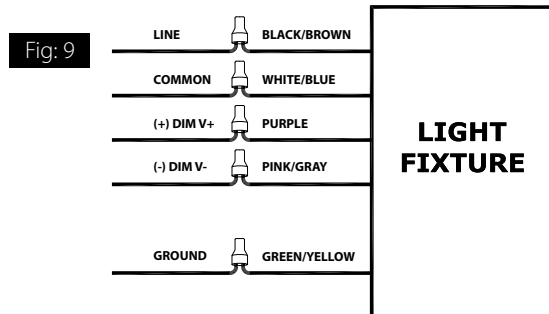

Fig: 9
2. Make appropriate wire connections per NEC in an approved enclosure (*not included*) see **Fig. 9**.
2. Make appropriate wire connections per NEC in a approved enclosure (*not included*) see **Fig 9**.
Universal voltage driver permits operation at 120V thru 277V, 50 or 60 Hz. For 0-10 Dimming, follow the wiring directions as shown in **Fig. 9**.